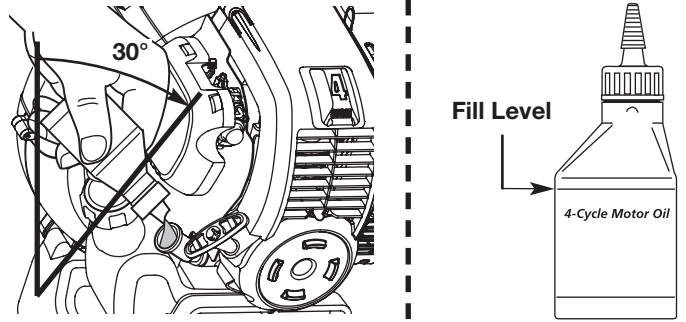

Fig. 22
4. Tilt the unit backwards 30° (Fig. 22).
6. Use the bottle and spout saved from initial use to measure the correct amount of oil. The top of the label on the bottle measures approximately 3.04 ounces (90 ml) (Fig. 22). Check the level, See *Checking the Oil Level*. If the level is low, add a small amount of oil and recheck. Do not overfill (Fig. 22).